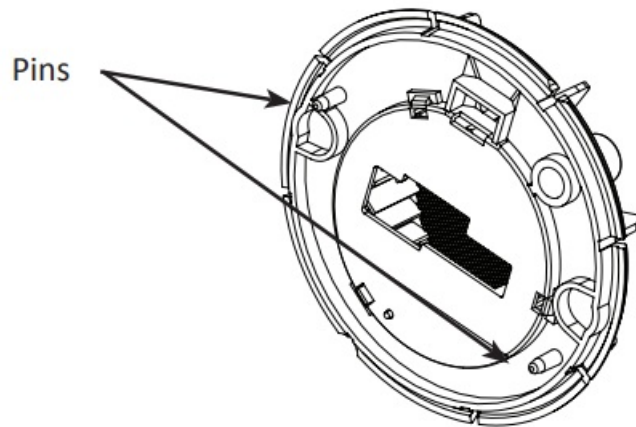

FIGURE 6
8. Line up the two pins on the back of the optic cage base to the pin holes on the circuit board to place the optic cage base on the circuit board (FIGURE 6)